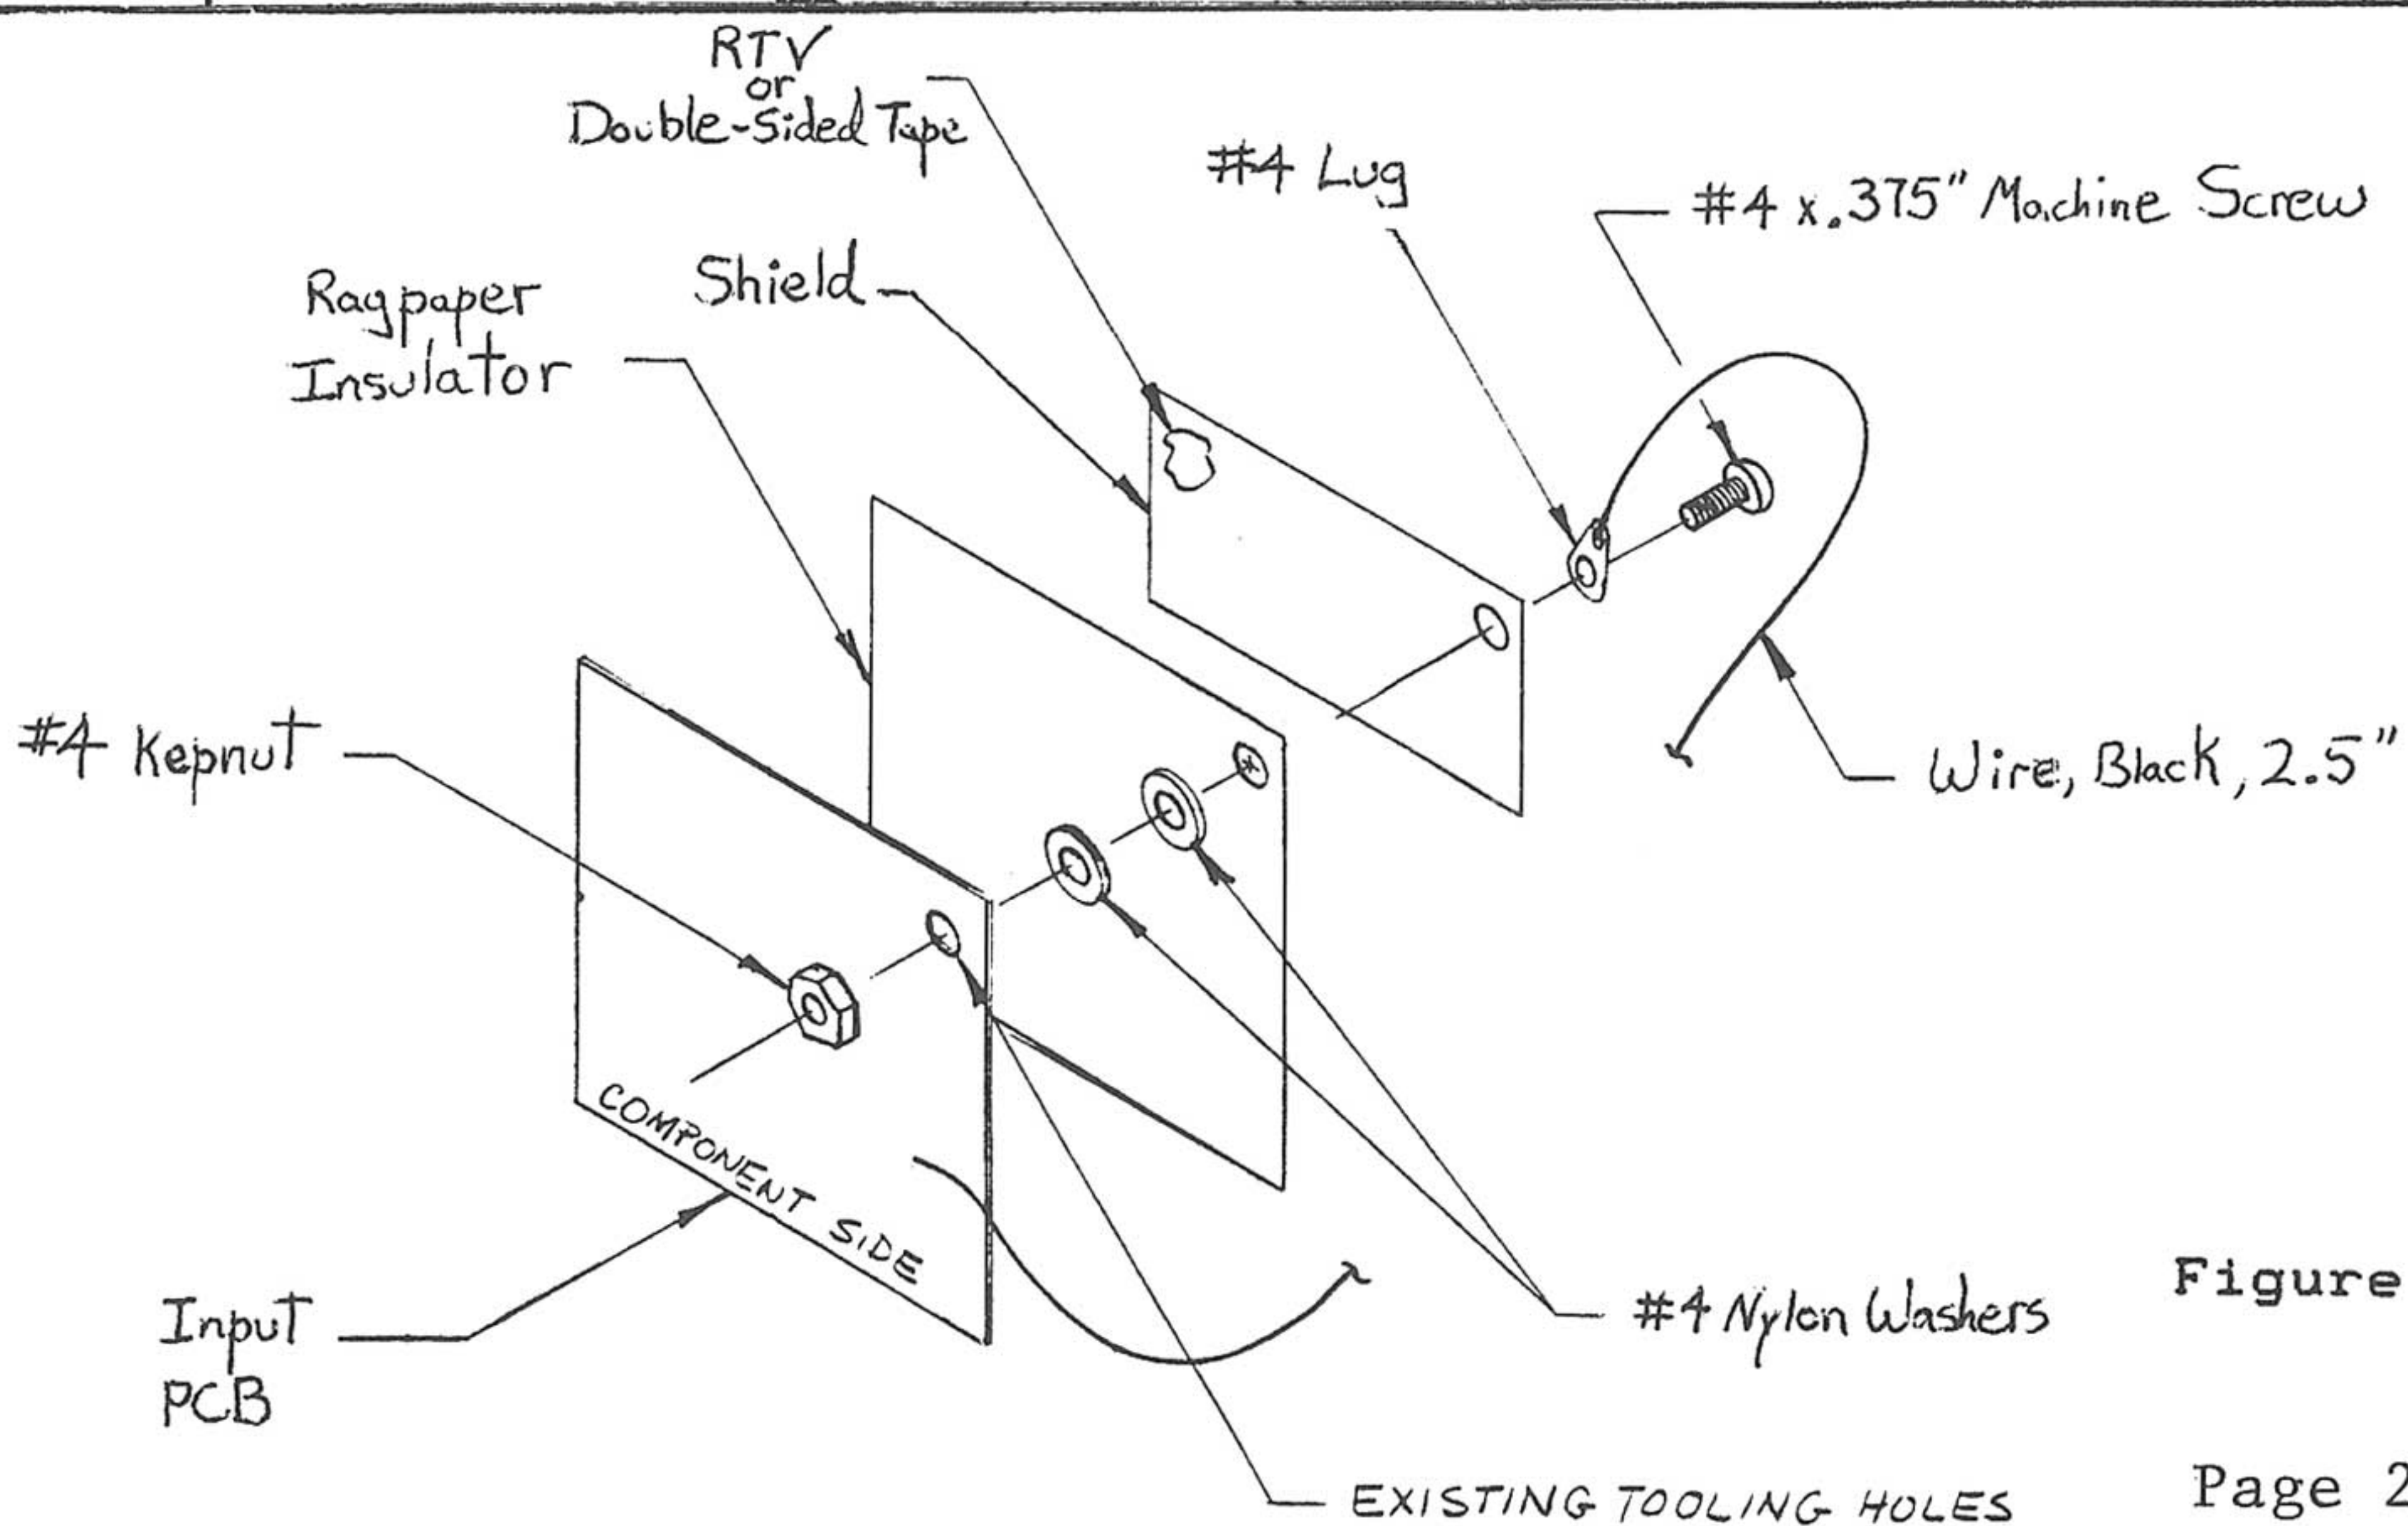

Figure 3
6. Attach 3.3" X 2.5" ragpaper insulator (108-00102-00) and shield (531-00004-00) to underside (foil side) of input board using screw, nut and nylon washers as shown in Figure 3.